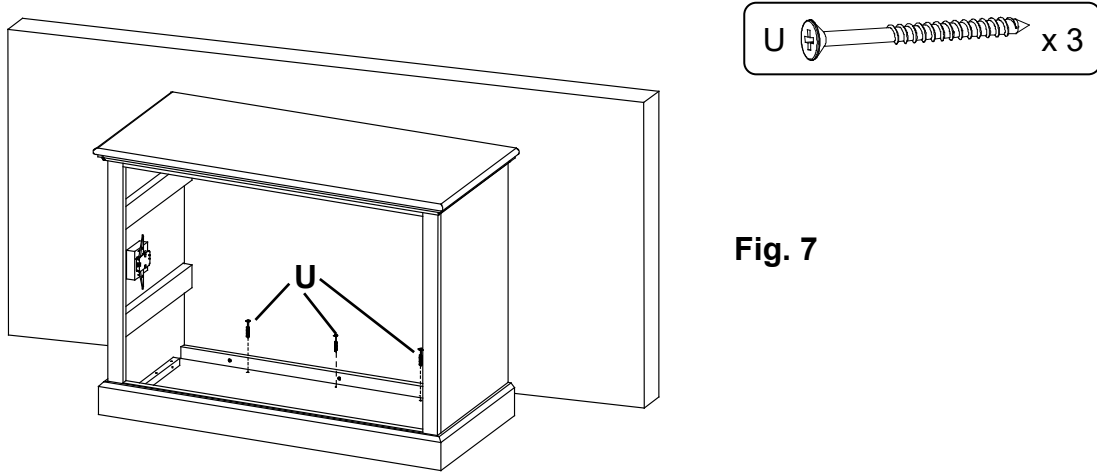

Fig. 7
Using three #8 x 2-3/4" Black Screws (U), secure the file cabinet to the floor. See Figure 7.